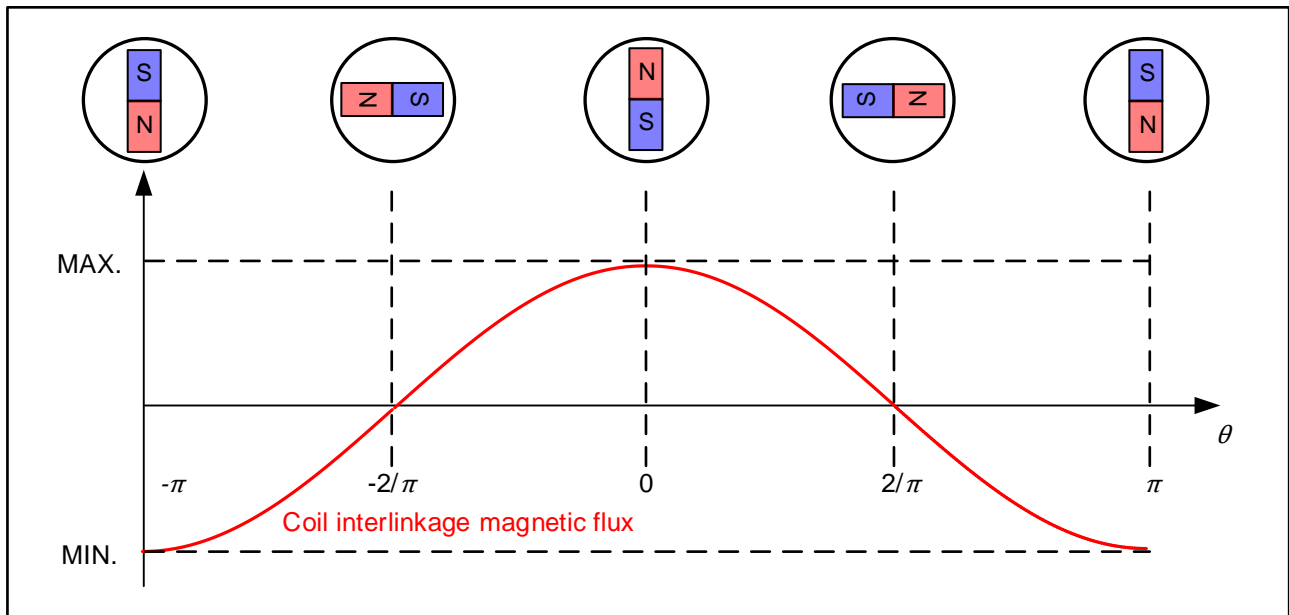

Figure 3-3 Fluctuation of Interlinkage Magnetic Flux
Figure 3-3 shows the variation of interlinkage magnetic flux in the U-phase. Size of the interlinkage magnetic flux is shown on the vertical (Y) axis and phase of the permanent magnet is shown on the horizontal (X) axis. Also position for disposing the N pole of permanent magnet to coil is considered as 'θ = 0'.